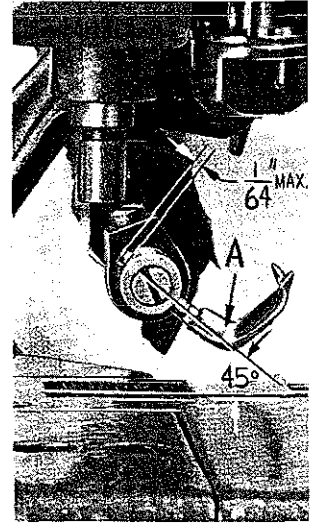

Fig. 6A
Preliminary Setting: Position the holder so the hole is approximately 45° to the throat plate (Fig. 6A). Insert the spreader (A) in the holder so its shank extends NOT more than $\frac{1}{64}$ inch beyond the holder (Fig. 6A).